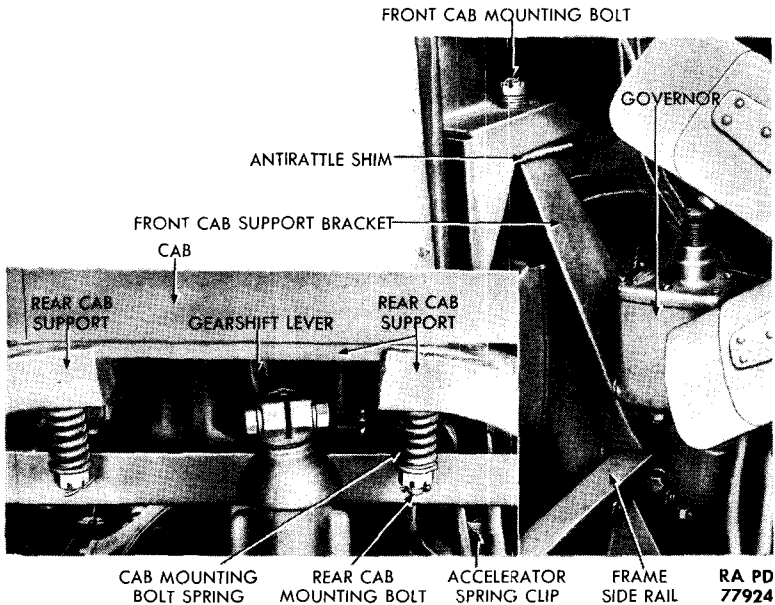

Figure 21 – Cab Attachment Points
- w. **Disengage Cab Front Support Brackets (fig. 21).** Remove the cotter pin, nut, lock washer, flat washer, spring, and bolt on each side which secure cab to support brackets. Procedure is identical on each of the two sides.
- z. **Disengage Rear Cab Support Bracket (fig. 21).** Remove the cotter pin, nut, two flat washers, two springs, and bolt on each side which secure cab to rear support brackets. Procedure is identical on each of the two sides.
q. **Connect Cab to Cab Front Support Brackets** (fig. 21). Install the bolt, flat washer, spring, toothed lock washer, nut, and cotter pin which secures cab on each side to support brackets. Procedure is identical on each of the two sides.
r. **Connect Cab to Cab Rear Support Bracket** (fig. 21). Install the bolt, two springs, two flat washers, nut, and cotter pin on each side which secures cab to rear support bracket. Procedure is identical on each of the two sides.